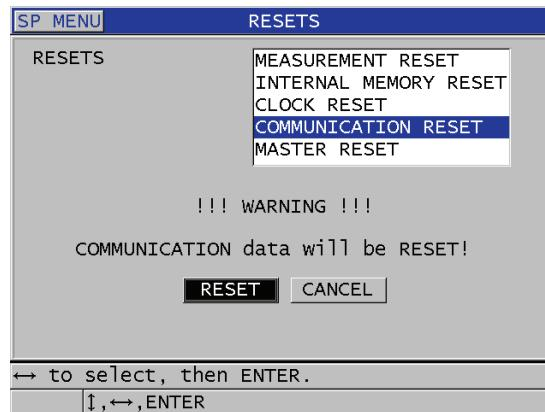

Figure 14-10 Selecting the COMMUNICATION RESET
3. In the RESETS screen (see Figure 14-10 on page 253):